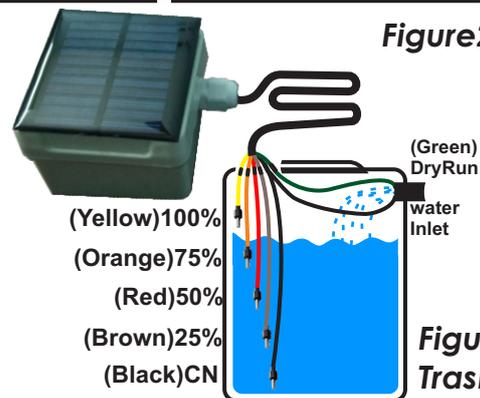

Figure 4: Transmitter
Step 7: Now power off the controller unit. **Contact type sensor connection:** Take the sensors and cut them according to the levels of the tank and join them with the sensors lines of transmitter as per color coding. (Refer figure 4).
Step 8: Immerse the sensors in the water tank and place at 25%, 50%, 75%, 100% levels. Dry run sensor should be fixed in the inlet of the tank. Join black and green wire of transmitter to this sensor. (Refer figure 4)